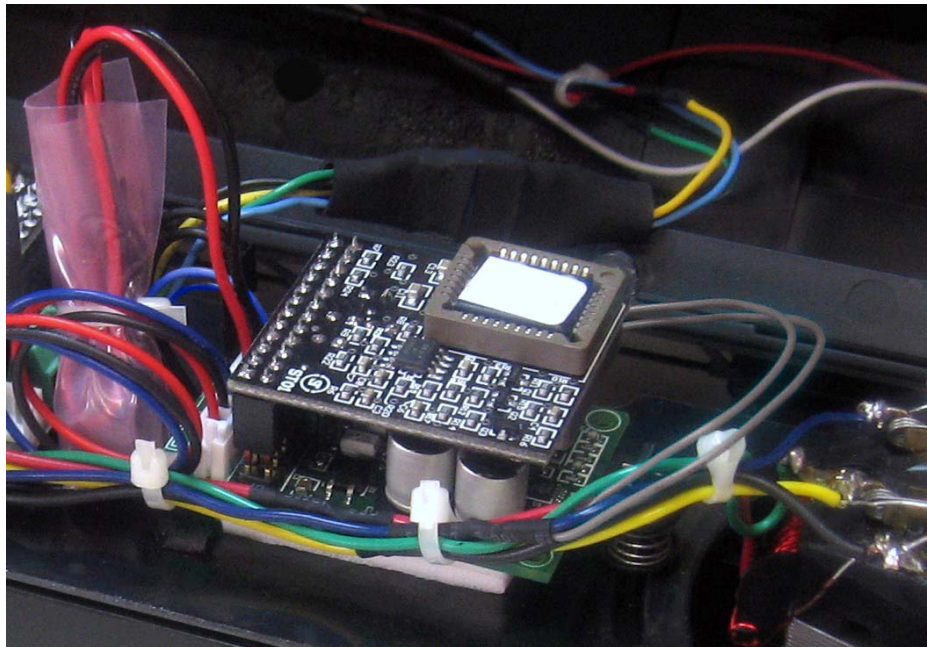

Figure 13 – Installation complete
2. Locate the provided cable ties and, while referring to Figure 13, use them to secure the chassis wiring. Wires should be positioned so they will not be pinched between the chassis and shell or other parts. Avoid placing wires where they will be directly in front of windows for a better appearance. When complete, cut the cable ties to remove any excess length.